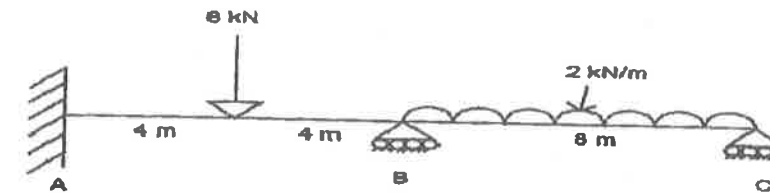

Fig.5
- b) Analyse the continuous beam shown in Fig.5 by stiffness method. EI is constant for all members.